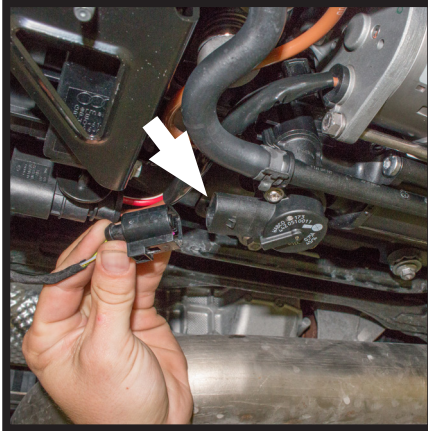

FIGURE 3
4. DISCONNECT THE THREE (3) ELECTRICAL CONNECTORS FROM THE VALVE BLOCK AND COMPRESSOR ASSEMBLY. (FIGURES 3, 4, 5)